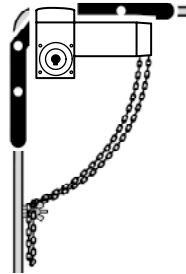

Figure 9
- The chain should hang freely, should not be stretched (fig. 9).